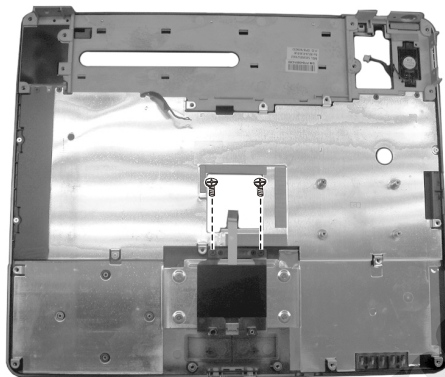

Figure 2-29 Remove the two screws
2. Remove the two screws fastening the touch pad button. (Figure 2-29)